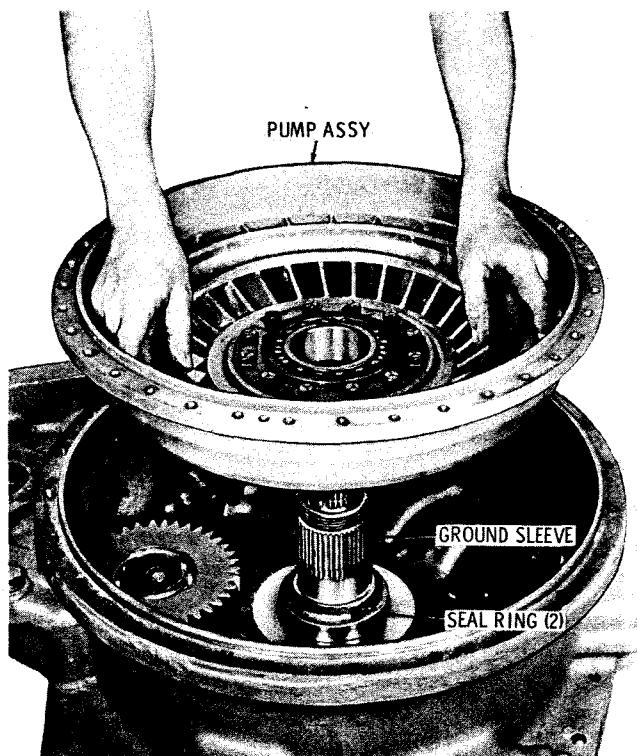

Fig. 7-37. Installing torque converter pump assembly
(14) Check to make sure that the two seal rings are in proper position on the converter ground sleeve (fig. 7-37). Install the torque converter pump assembly, seating the ball bearing against the shoulder on the ground sleeve.